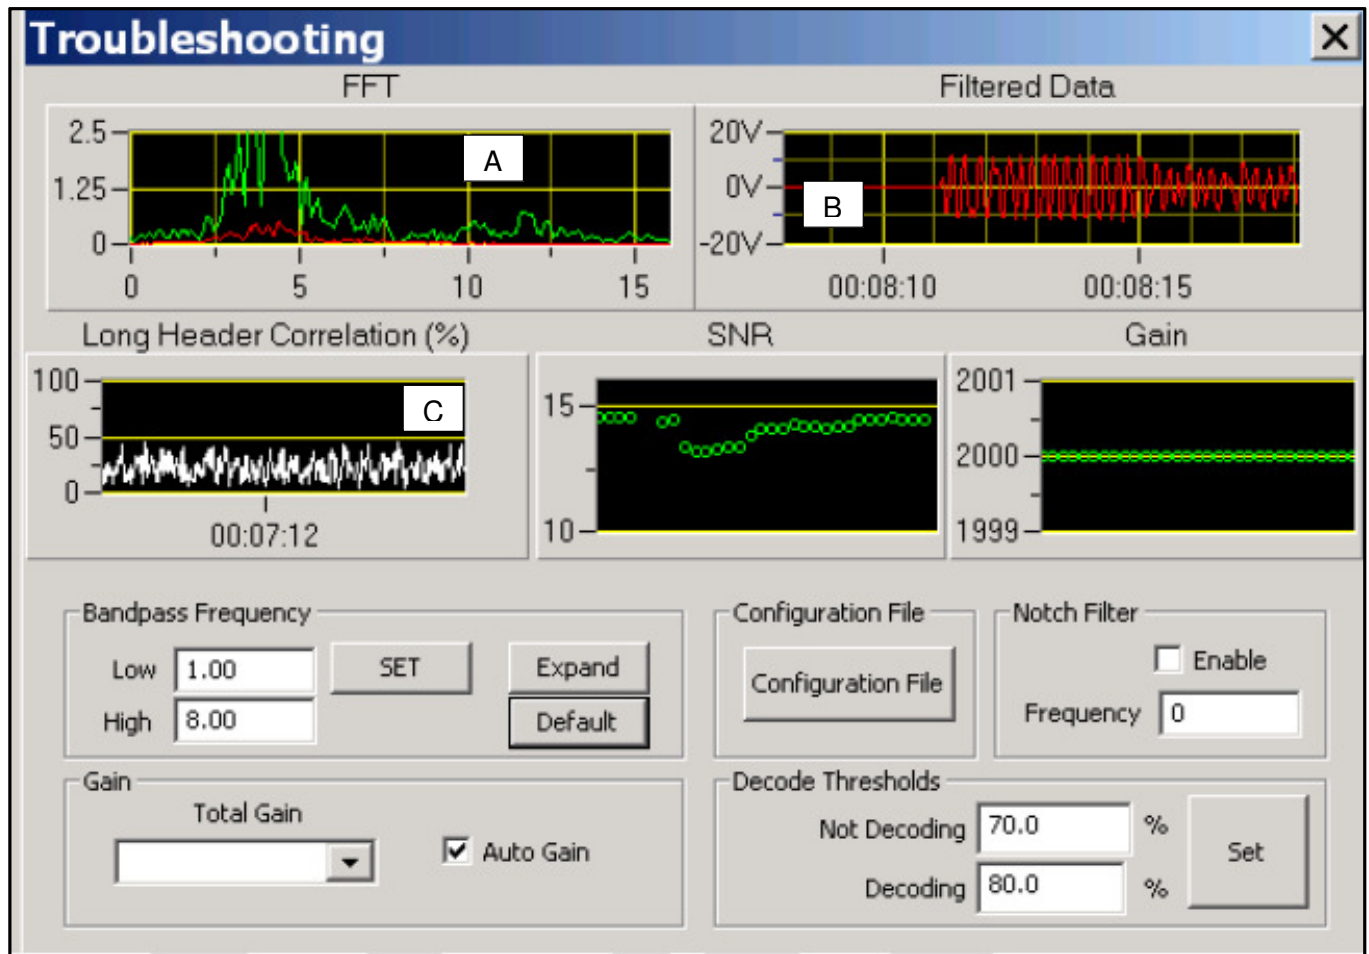
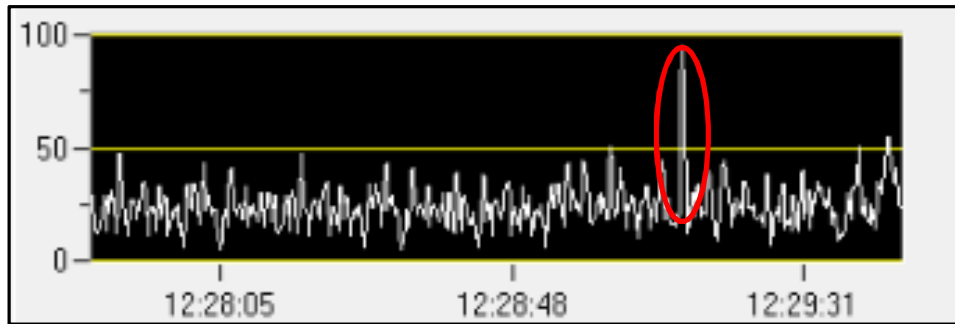

Figure 44 Troubleshooting Window
Figure 45 Long Header Correlation 95%
13. A description of each of the graphs is given in Figure 44.
- A. The FFT (Fast Fourier transform) display shows the tool signal frequency and amplitude. The display in Figure 44 shows an XEM operating at 4Hz and having a frequency spread from 2.75Hz to 5.25 Hz with a good amplitude.
- C. The Long header correlation (%) display shows the ease with which the Long header can be decoded. The display in Figure 44 shows a confidence value of approximately 40%, This number will go up when the XEM Rx will actually decode a long header, the confidence should appear as a spike as shown in Figure 45(The Header is 95%).
- D. The Signal to Noise ratio plot compares the signal to noise. This number should be > 6 for good decoding. In Figure 44 the SNR is between 13 and 15 indicating good signal quality as compared with Noise.
- E. The Gain plot shows the gain applied by the XEM receiver to decode the signal. In the Figure 44 below the Gain is 2000. Typically if the Gain < 20,000 the signal can be decoded.